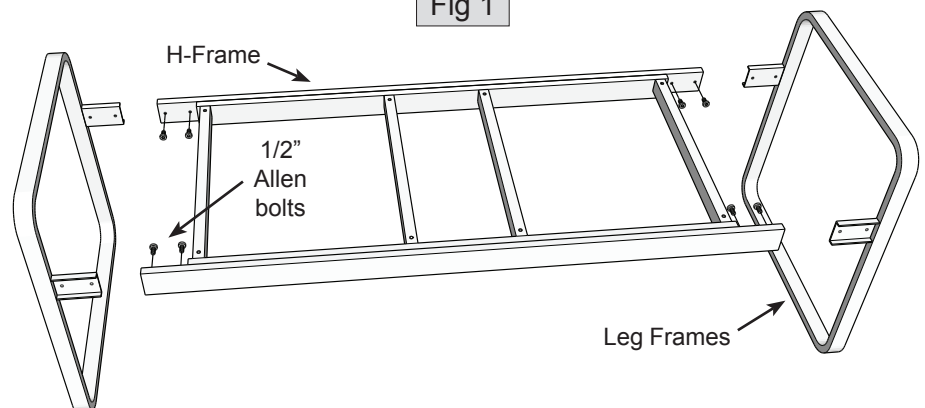

Fig 2
3. Attach cushions to frame assembly using 2" Allen bolts, as shown in figure 2. Get all bolts started before tightening securely.